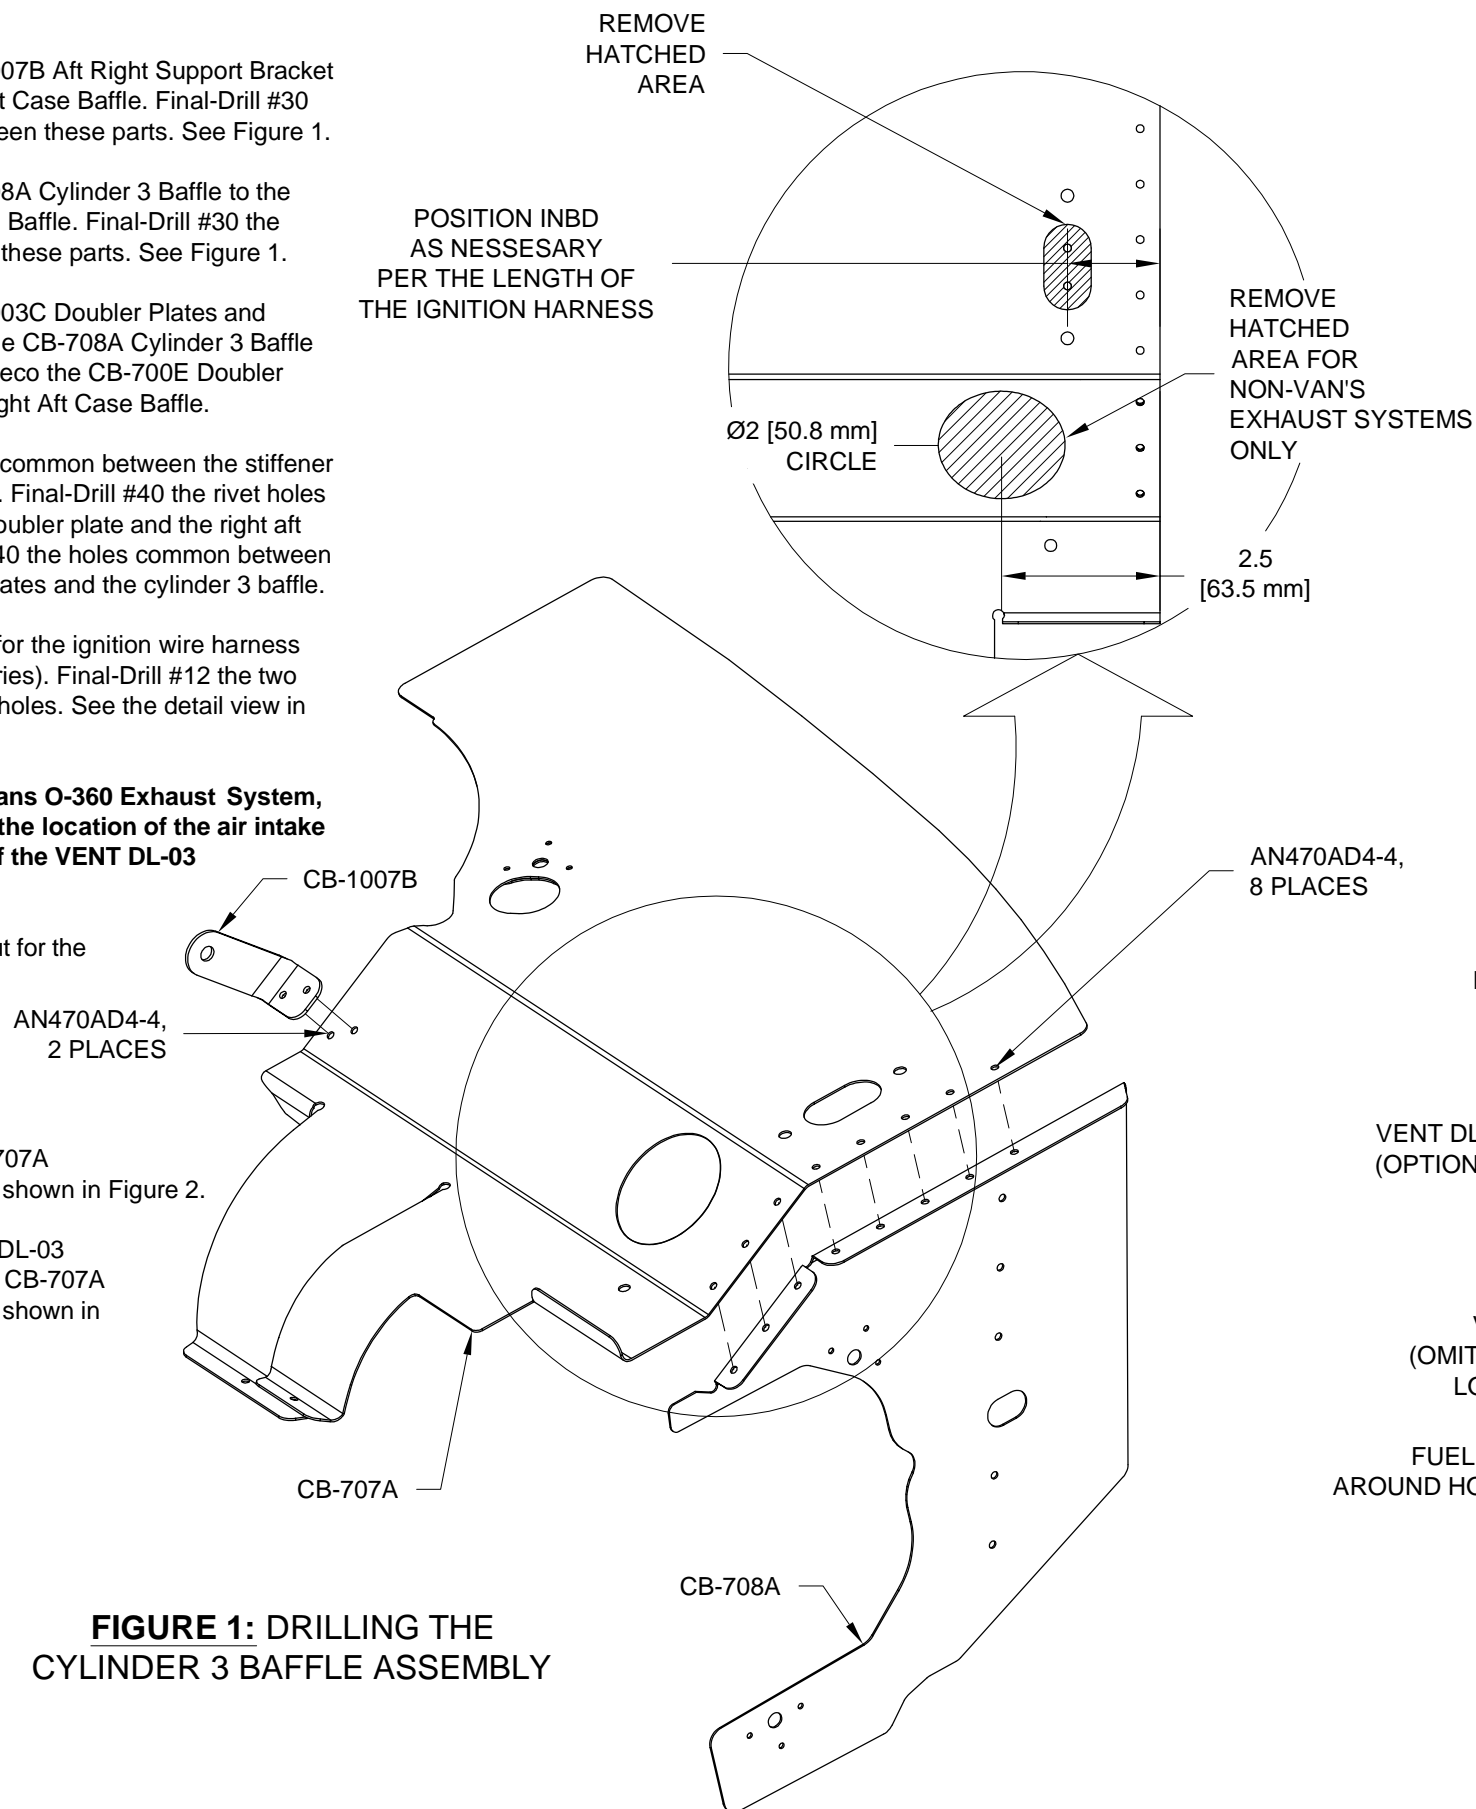

FIGURE 1: DRILLING THE CYLINDER 3 BAFFLE ASSEMBLY
Step 9: Rivet the CB-1007B Aft Right Support Bracket to the CB-707A Right Aft Case Baffle. See Figure 1.